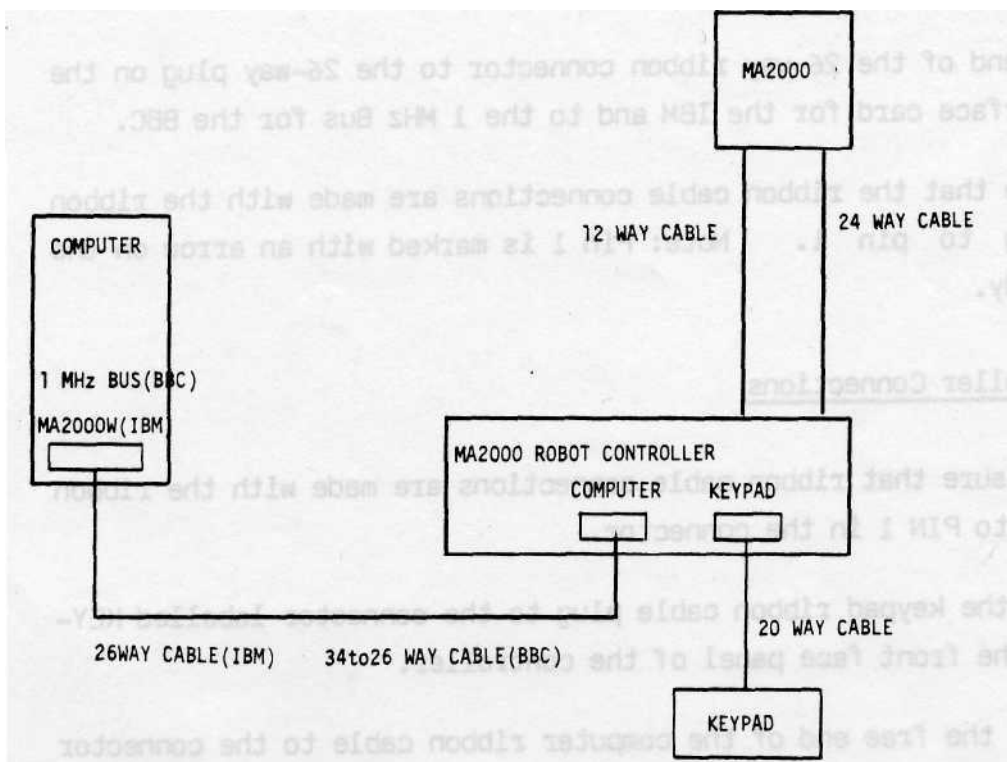

Fig 2.3.2.3
5. Check your connections against Fig 2.3.2.3.